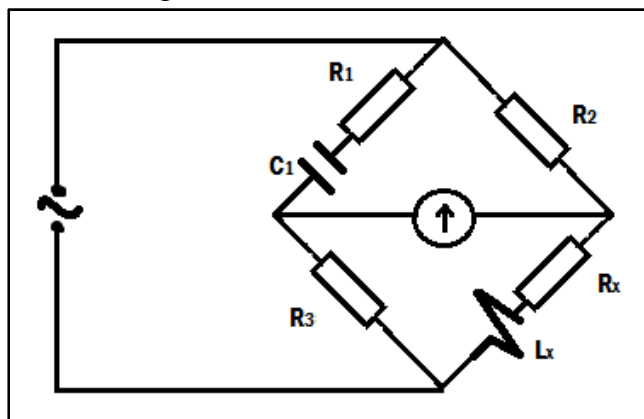

Figure Q7: Hay bridge
- b) A Hay bridge is often used for measuring the inductance of high Q- coils (i.e. $Q > 10$) and has a configuration shown in Figure Q7 below.